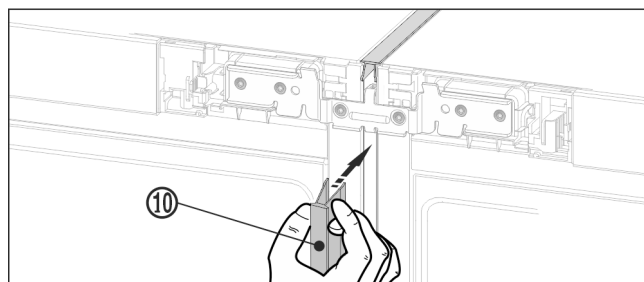

Fig. 19
- On the front press the long cover strip Fig. 19 (10) into the vertical gap. Ensure that the strip rests on the connecting plate.